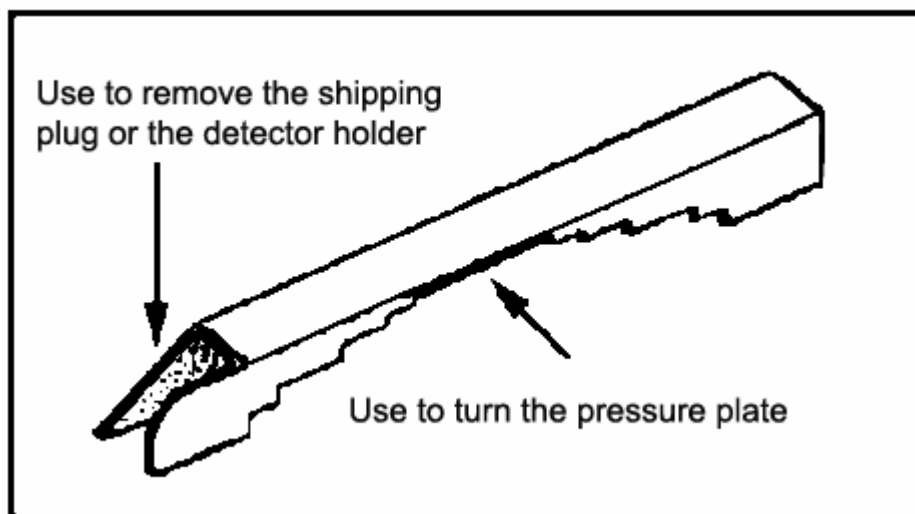

Figure 052-192-1109-1
**Install an M19 Antitank (AT) Mine**
- b. Use the M22 wrench to remove the M606 fuse from the fuse well by turning it counterclockwise one-quarter turn (Figures 052-192-1109-1 and 052-192-1109-2).